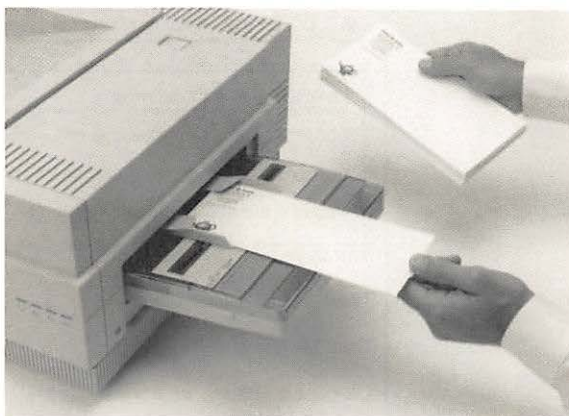

Figure 3-11
5. Insert the envelopes face up with the top edge to the rear as they enter the printer. (See Figure 3-11.)